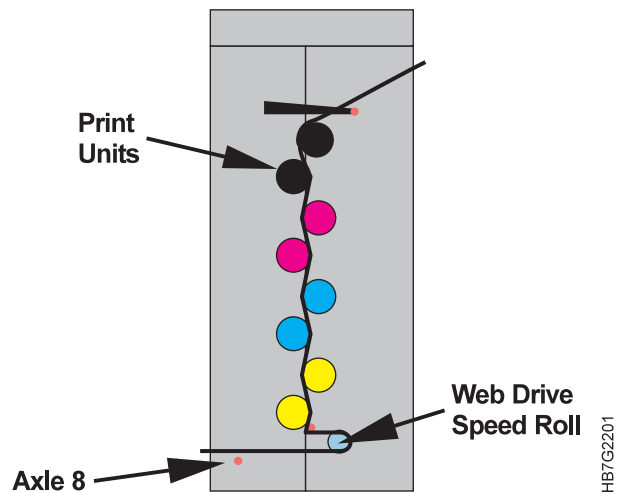

Figure 305. Print Tower Paper Path
- 7 Pull the paper through the base of the X tower to the Y tower. Ensure that the paper is placed above axle 8, as shown in Figure 305.